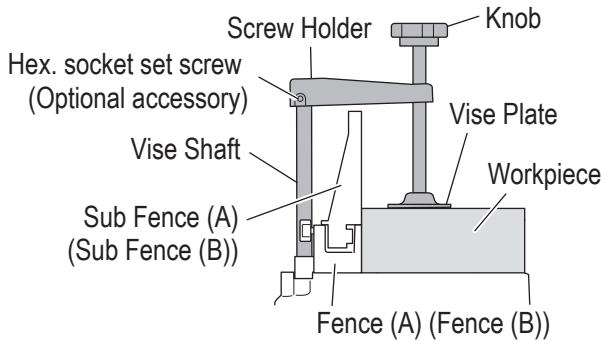

Fig. 26
3. Using the Vise Assembly (Standard accessory) (Fig. 26 on page 90)
- (1) The vise assembly can be mounted on the base.
- (2) Turn the upper knob and securely fix the workpiece in position. (**Fig. 26**)